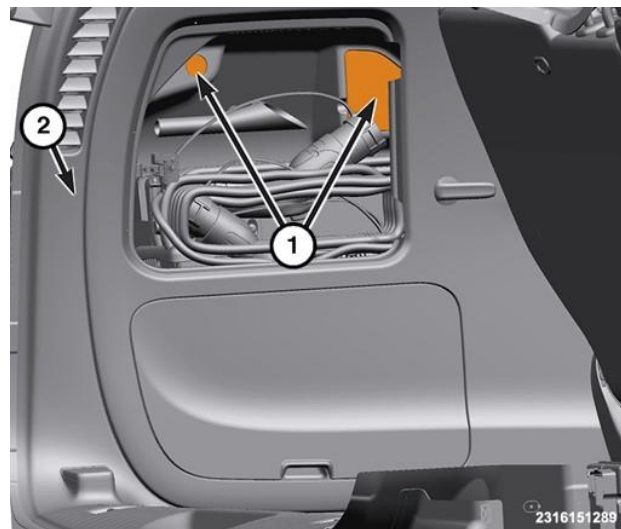

Figure 40 – Quarter Panel Insert
- 49. Remove the fastener covers (1) (Figure 40).
67. Install the fastener covers (1) (Figure 40).